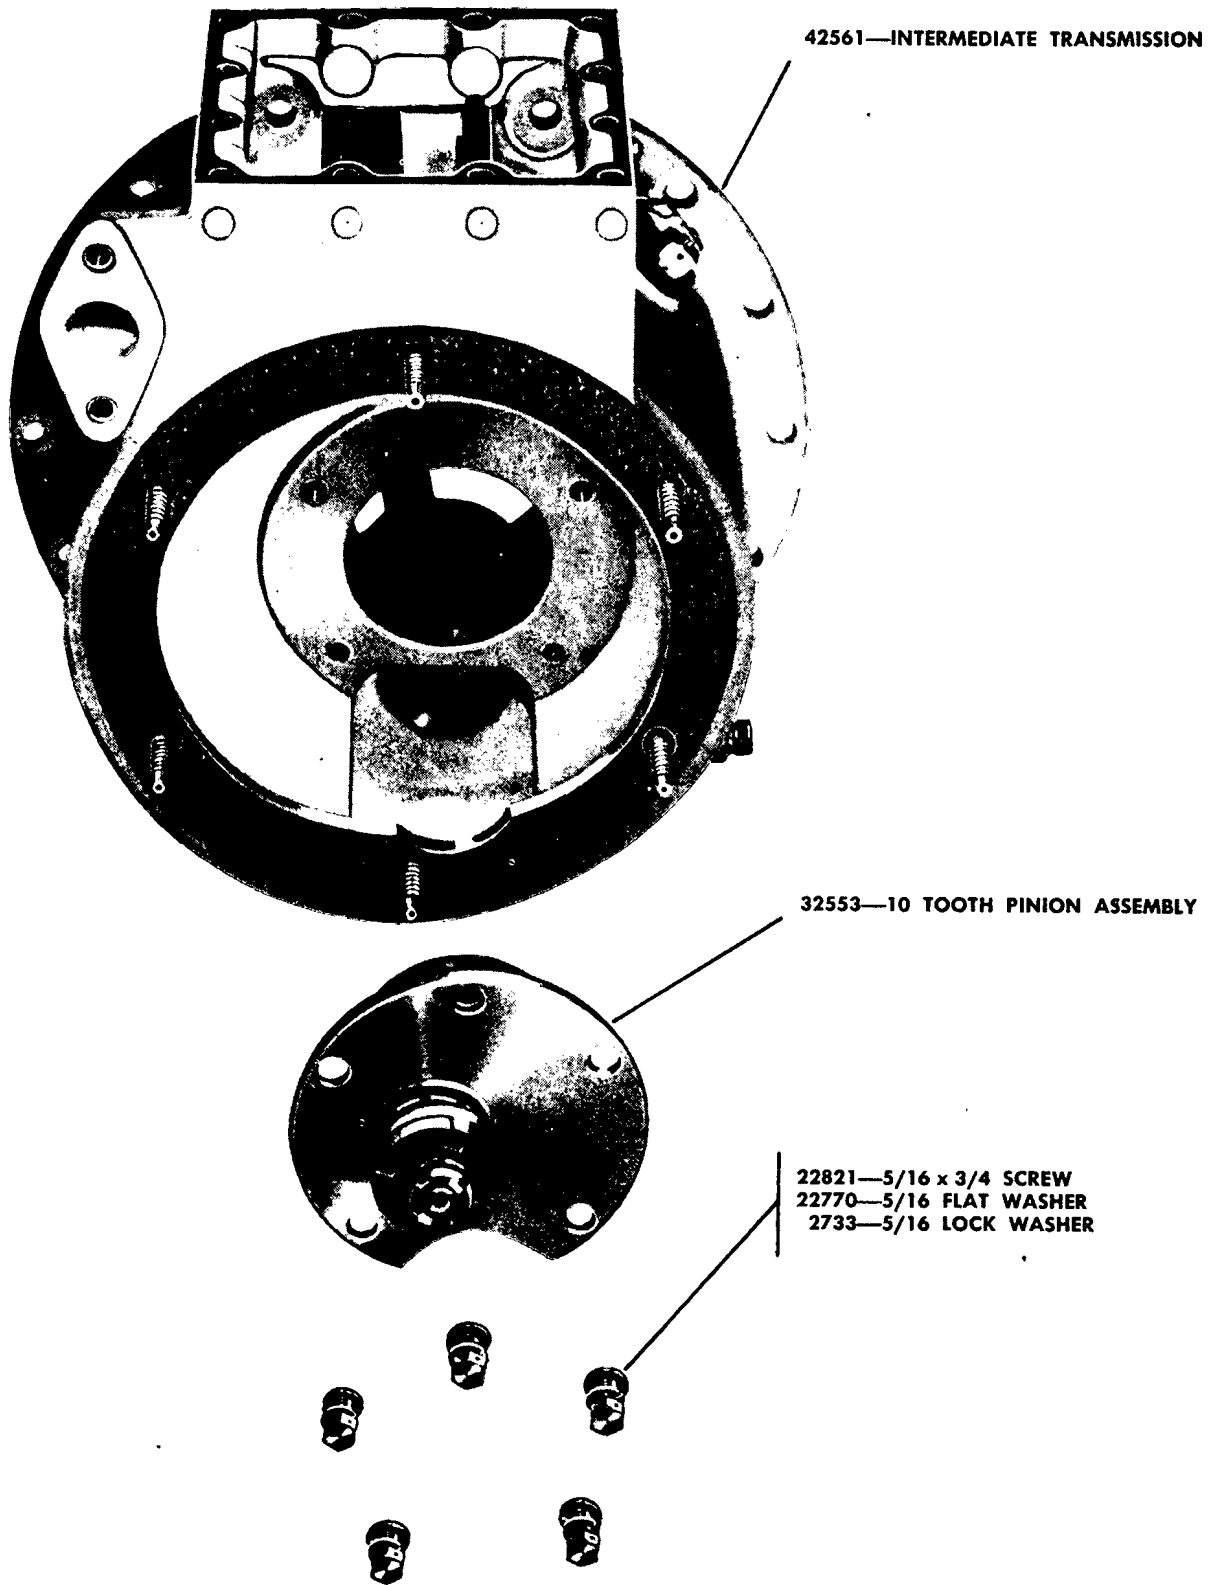

Figure 7-85. Intermediate Transmission Housing, Exploded View
(27) The sixth step is to mount the high speed pinion assembly in the gearcase. This assembly should be mounted only after the intermediate pinion and internal gear assembly has been installed in the gearcase.
(28) It will be noted that the 10 tooth pinion shaft is eccentric to the hub of the bearing cage, permitting the pinion to be moved in or out of the mesh with its mating 101 tooth gear for backlash adjustment. The assembler should remember this feature as a means of preventing injury to the gear teeth when mounting.
(29) The procedure for mounting the 10 tooth pinion bearing cage in the gearcase is as follows. Place the pinion assembly into the gearcase, taking care that a tooth on the pinion slides into a tooth space on the mating 101 tooth internal gear. Place the flat washers and the lockwashers on the five hex head screws and thread the screws, tightening them sufficiently to hold the bearing cage flange snugly against the gearcase but permitting a slight turning of the cage when it is tapped. See Figs. 7-85 and 7-86.
(30) Using a piece of fiber or wood, tap the bearing cage in a clockwise direction until no vibration or rattle can be detected between the gear teeth on the pinion and internal gear. A positive means for detecting vibration or rattle is to grip the Oldham coupling driven member lightly with the finger tips. It is possible to detect movement or backlash as fine as .002 inch in this manner.
(31) Tap the bearing cage in a counterclockwise direction until a minimum of backlash is noted. Check to see if backlash is uniform all the way around the 101 tooth gear. Tighten the hex head screws with a 1/2 inch socket wrench and check again to see that this has not changed the backlash adjustment. Secure the screws with safety wires.